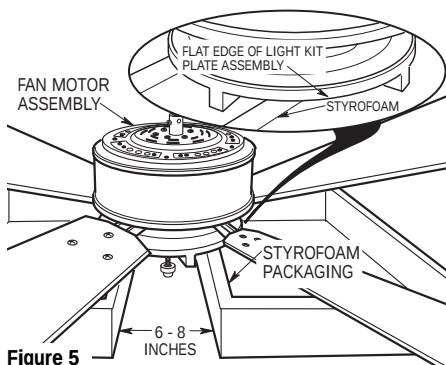

Figure 5
6. Turn the fan motor assembly upside down in preparation for mounting the hanger bracket/downrod assembly. Position the top and bottom halves of the styrofoam packaging side-by-side on the floor with a six to eight-inch gap between the halves (Figure 5). Carefully place the partially assembled ceiling fan on the styrofoam halves, resting the flat edge of the light kit plate assembly onto the styrofoam. Do not rest fan motor assembly on light sockets.